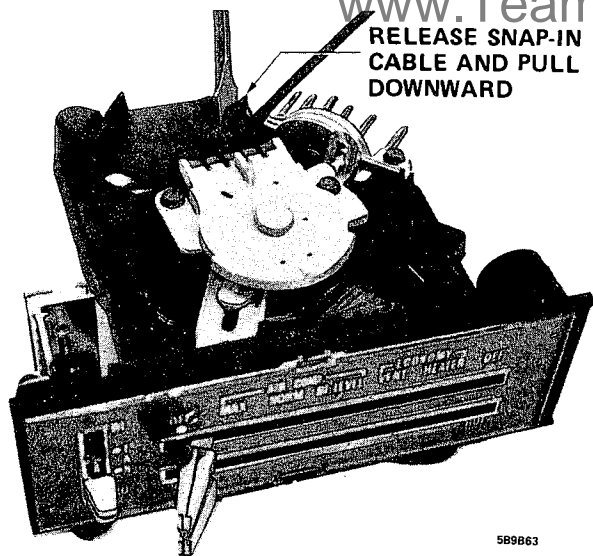

Figure 9B-164 - Releasing Snap-In Bowden Cable - A Series
Removal and replacement of air distribution components can be performed by referring to Figure 9B-187 for duct and outlet installation.
3. Pull control out from the instrument panel and disconnect vacuum, electrical connectors and release the Bowden cable and pull down as shown in Figure 9B-164.